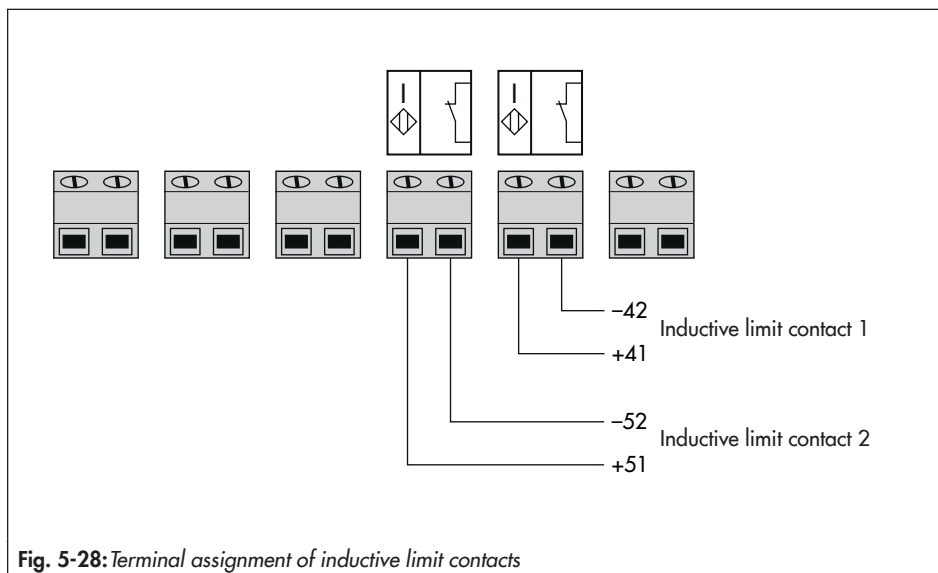
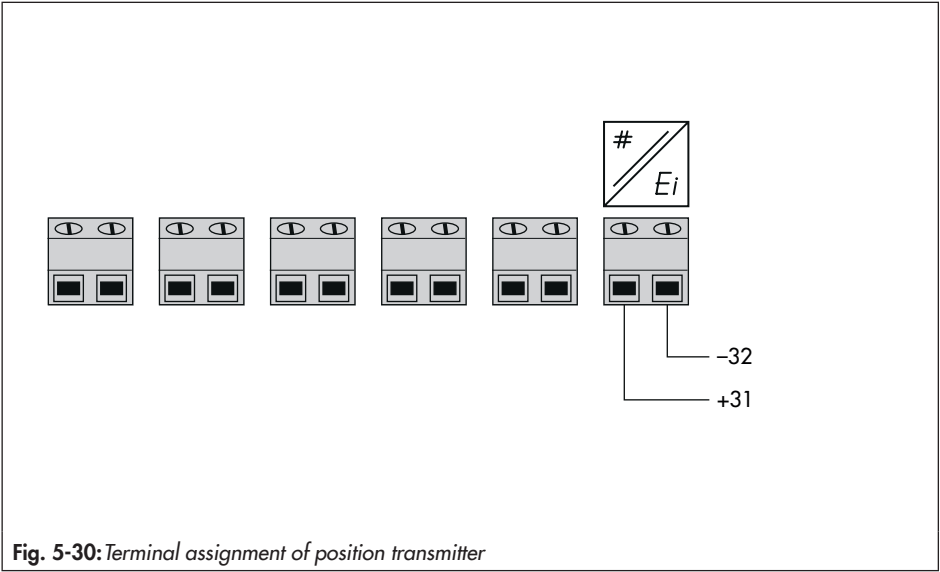

Fig. 5-28: Terminal assignment of inductive limit contacts
Fig. 5-30: Terminal assignment of position transmitter
- Connect options as shown in Fig. 5-28 to Fig. 5-30, if necessary.